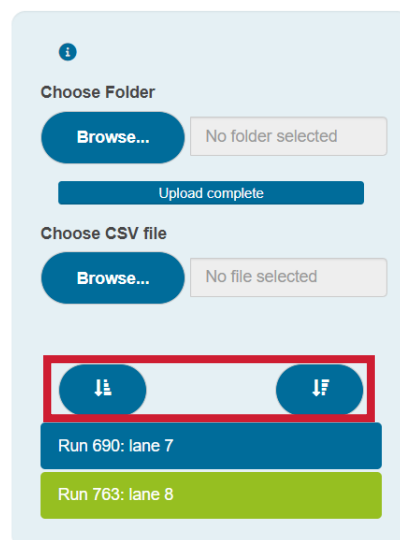

Fig. 4.5. Use the sorting buttons to sort the runs in ascending and descending order.
4. The uploaded runs can be sorted in ascending and descending order using the sorting buttons (Fig. 4.5).